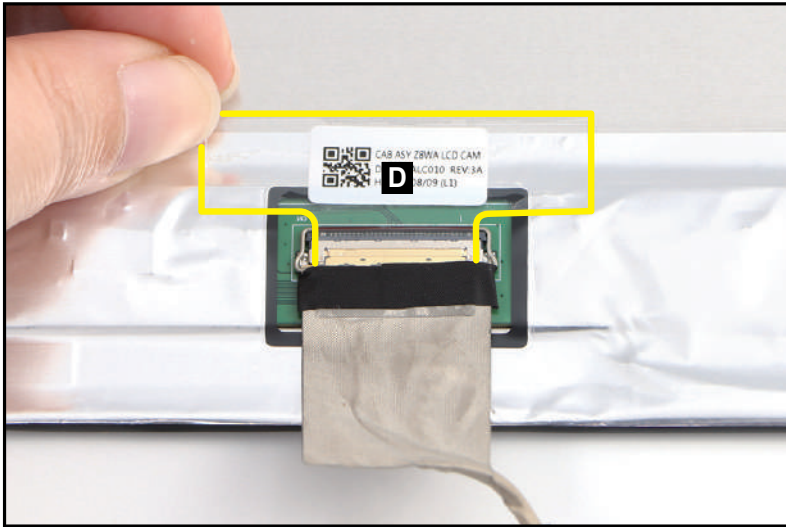

Figure 3-98. Replacing the LCD Panel
4. Adhere the mylar (D) to secure the LCD cable to the LCD panel (Figure 3-98).